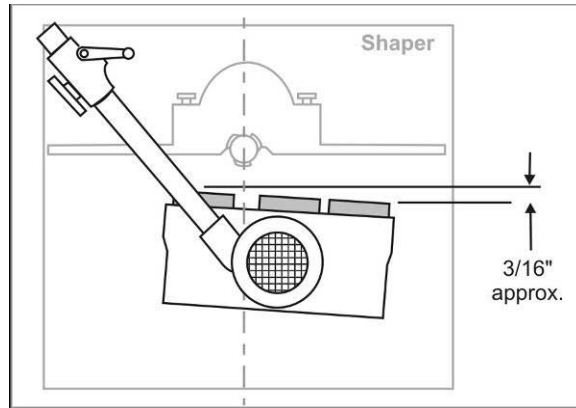

Figure 17
- To ensure that the workpiece is held firmly against the fence, set the stock feeder at a slight angle toward the fence in the direction of feed. In other words, the outfeed roller should be approximately  $3/16"$  (5mm) closer to the fence than the infeed roller. See Figure 17.